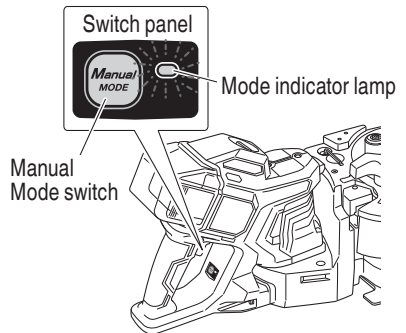

Fig. 21
- About the warning signal (Fig. 21, Table 5)